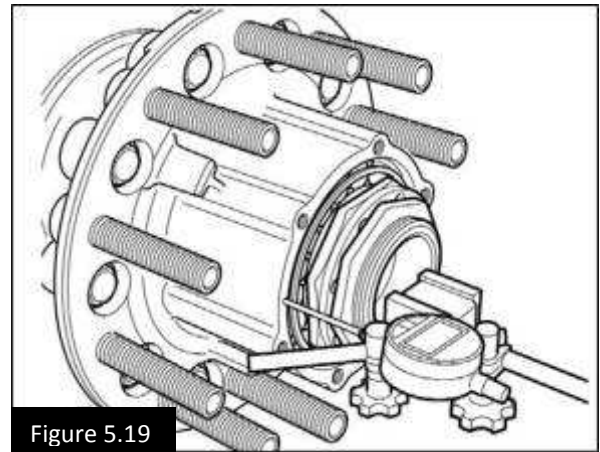

Figure 5.19
- B. Touch the dial indicator stem to the hubcap gasket face. (Fig. 5.19).